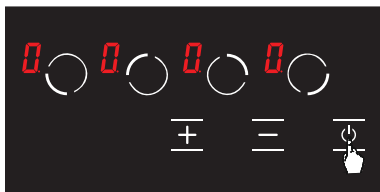

Figure 5
1. Turn the stove on by pressing the button. (See Fig. 5)